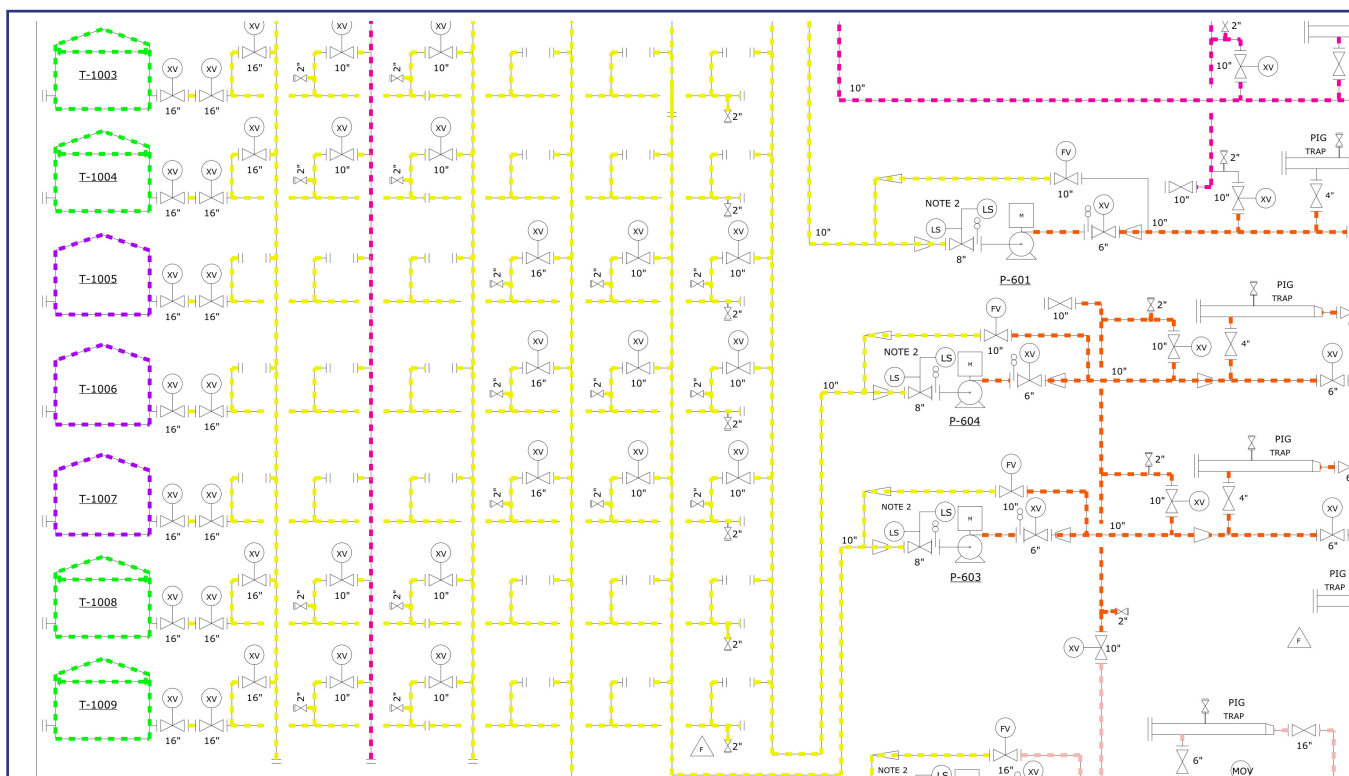

Figure 7: Pipe Grouping Representation
- » Manipulating the drawings to colorize assets and piping to represent groupings, data, and relationships (see Figure 7)
An example showing process piping or HAZOP nodes by programmatically re-drawing lines per user-defined visualization properties and data fed into the drawings is shown in Figure 7 below: